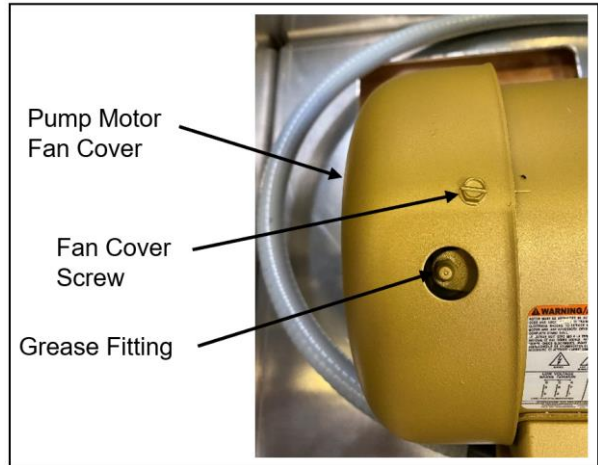

Figure 12-2. Pump Motor Fan Cover.
3. Remove the 3 screws securing the fan cover to the end of the pump motor. See Figure 12-2. Rotate the pump motor shaft as follows: